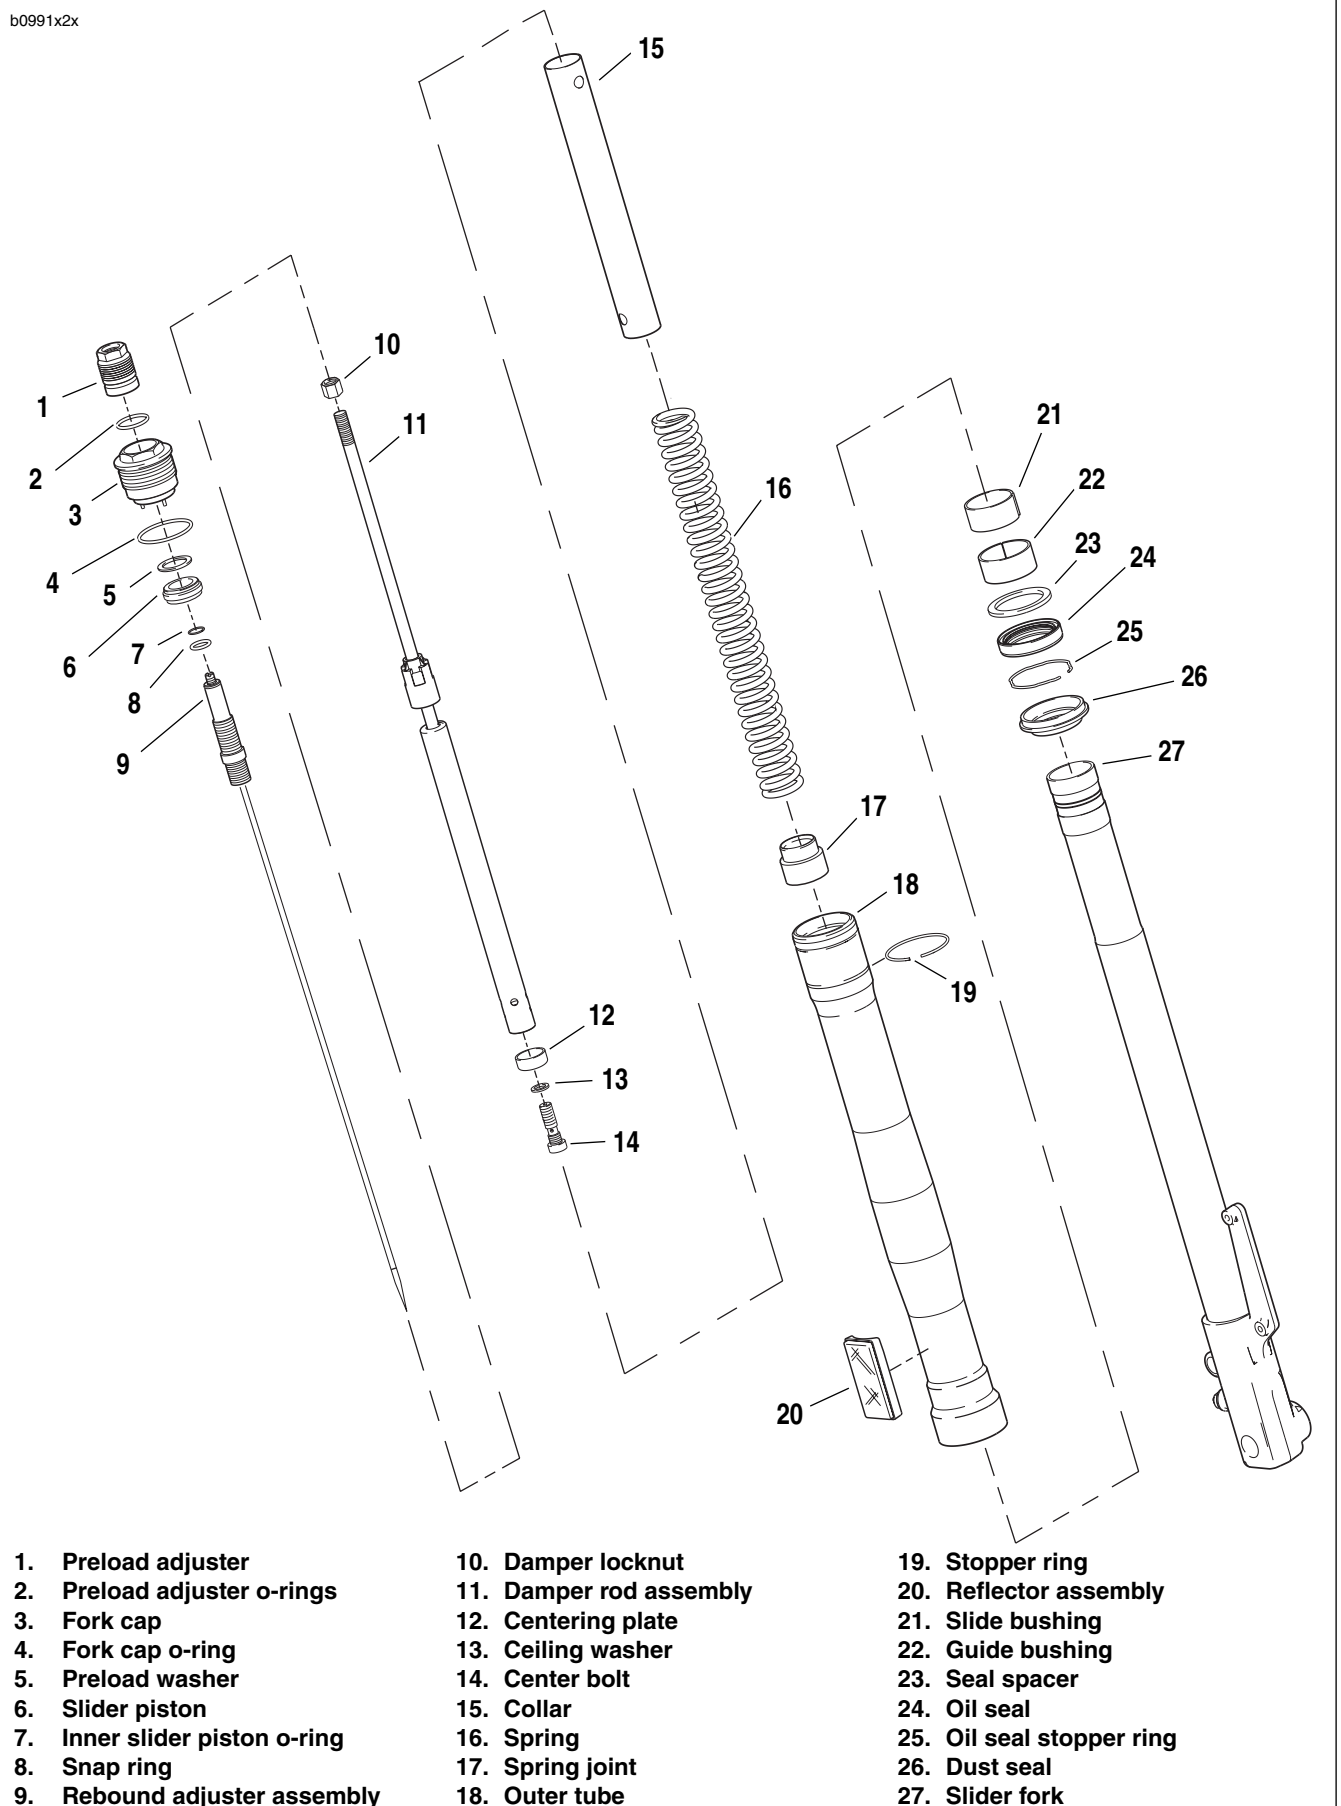
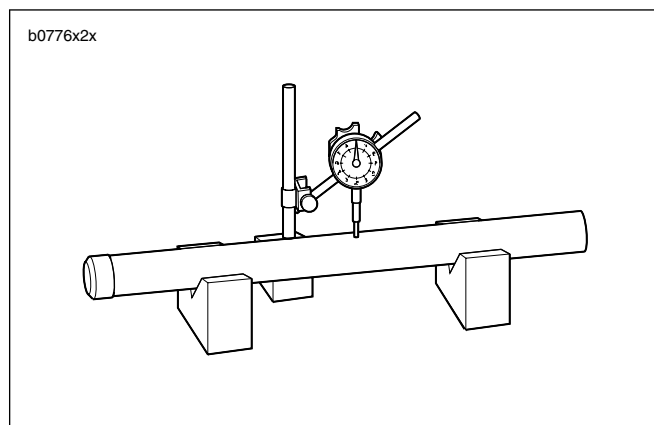

Figure 2-69. Front Fork Assembly
Figure 2-70. Slider Fork Runout
10. See Figure 2-69. Over drain pan, spring collar (15), remove spring (16) and drain fork oil.
11. Drain remaining fork oil by pumping the damping rod (11) approximately 8 to 10 times or until damping rod moves freely.
- See Figure 2-69. Disassembly of damper rod is not required unless damper locknut (10) has been moved. If damper rod needs servicing refer to the *Parts Catalog* for kit information.
1. See Figure 2-69. Lightly turn the rebound adjuster screw on top of the rebound adjuster assembly (9) counter clockwise till it stops.
2. Holding the damper locknut (10), unscrew the rebound adjuster assembly (9) and remove from damper rod assembly (11).
3. Remove damper locknut (10) from damper rod assembly (11).
2. See Figure 2-69. Check the slider fork (27) and outer tube (18) for score marks, scratches and excessive or abnormal wear. Replace if worn or damaged.
3. Check the slide bushing (21) and the guide bushing (22) for excessive wear or scratches. Replace if damaged or worn.
4. Replace the stopper ring (19) if distorted.
5. Measure spring (16) free length. Replace springs shorter than service wear limit of 14.31 in. (363.6 mm).
6. See Figure 2-70. Measure slider fork runout. Replace pipe if runout exceeds the service wear limit of 0.008 in. (0.2 mm).
1. See Figure 2-69. Fully thread the damper rod locknut (10) on to damper rod (11) clockwise till it lightly bottoms.
1. See Figure 2-69. Wrap the end of the slider fork (27) and the slide bushing channel with tape to avoid damaging the oil seal lip when installing.
2. Install a **new** dust seal (26) and stopper ring (25) onto the slider fork (27).
3. Coat the sealing lips of the **new** oil seal (24) with fork oil or sealing grease and install onto the slider fork with its marked side facing the dust seal (26).
5. Install the seal spacer (23), the guide bushing (22) and the slide bushing (21) onto the slider fork (27).
6. Coat the slide bushing (21) and the guide bushing (22) with fork oil.
7. See Figure 2-69. Drive the guide bushing (22) with the seal spacer (23) and oil seal (24) into position in the outer tube using a FORK SEAL DRIVER (Part No. B-43721/41mm) and (Part No. B-42571/43mm). See Figure 2-72.
8. Install the oil seal stopper ring (25) and a **new** dust seal (26).
10. See Figure 2-69. Install the centering plate (12) onto the damper assembly (11) and insert the damper assembly into the slider fork (27).
11. Replace the sealing washer (13) and center bolt (14) (metric). Tighten the center bolt to 22-30 ft-lbs (30-40 Nm).
18. See Figure 2-69. Install spring (16) and collar (15).
23. See Figure 2-69. Thread fork cap (3) into fork tube (18) and tighten to 25 ft-lbs (33.89 Nm).
24. Apply fork oil or light grease to o-rings on preload adjuster and install preload adjuster (3).
25. Install snap ring (2).